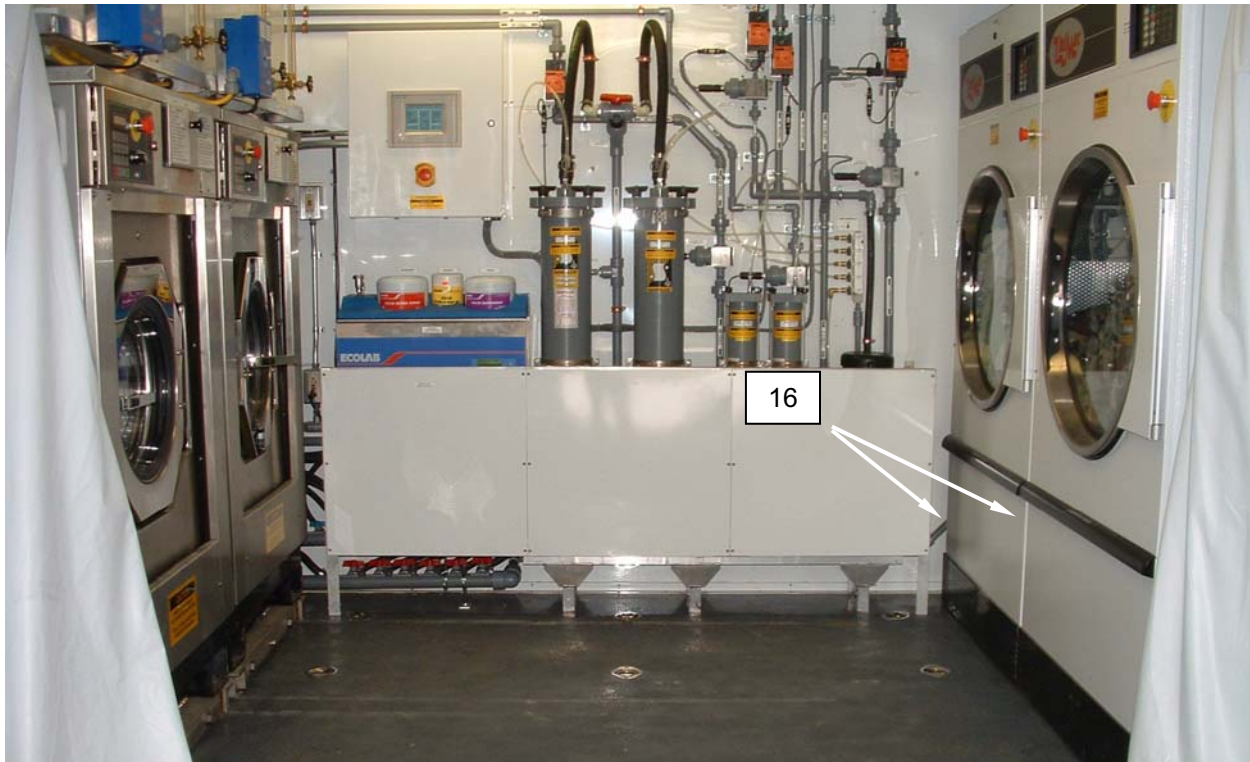

Figure 15. Prepare Dryers and Run Initial Fill.
28. Install lint compartment panels (**Figure 15, Item 16**) on dryers.